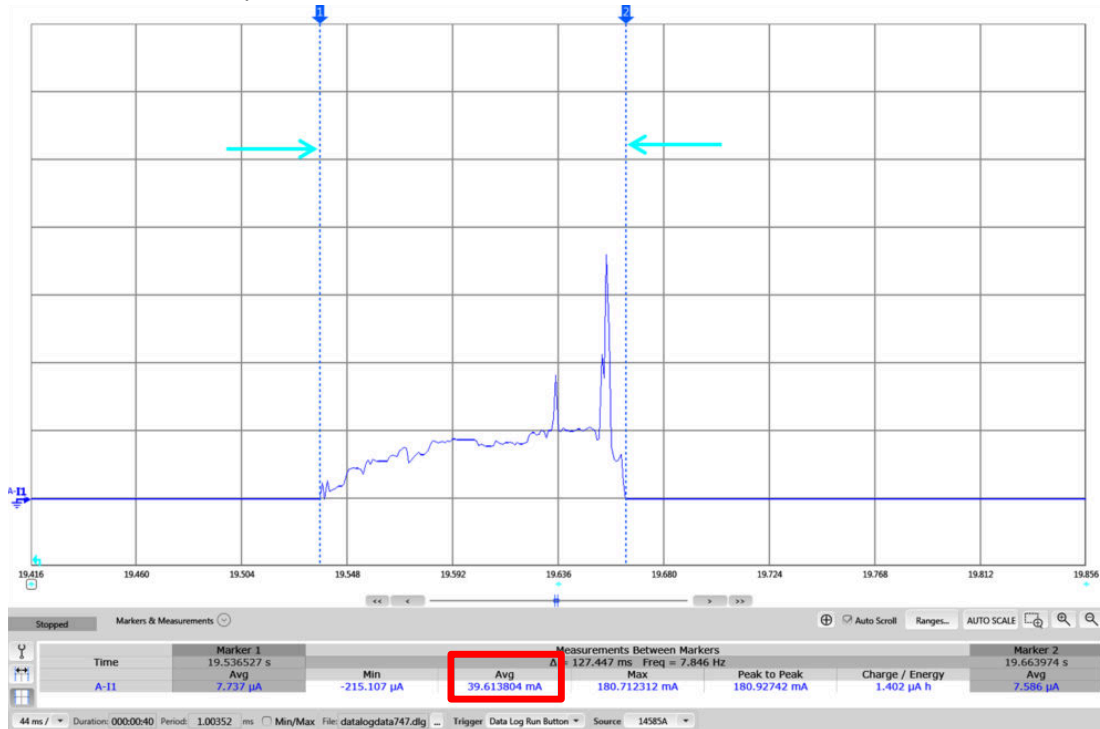

Figure 2-8. Average Current Measurement With DC Power Analyzer
- When the current measurement completes, position the markers to select the waveform to be calculated. The result should show the average current consumption of the sample period located between the two markers. Figure 2-8 shows an example.